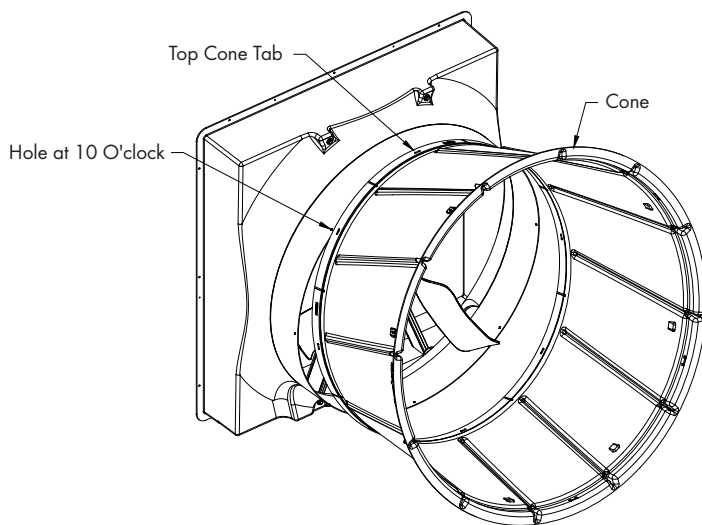

Figure 5A
Look for the "TOP" label on the Polycone and set the top of the Polycone on top of the fan orifice and install (2) Truss Head Bolts [B] through holes in fan outlet through the slots in the cone at about the 10 and 2 o'clock positions and fasten with Washers [C] and Flange Nuts [D]. Truss head of each bolt must be on the inside of the fan outlet; washers and flange nuts must be on outside of cone. See Figure 5A and 5B. Finger tighten nuts only at this time.